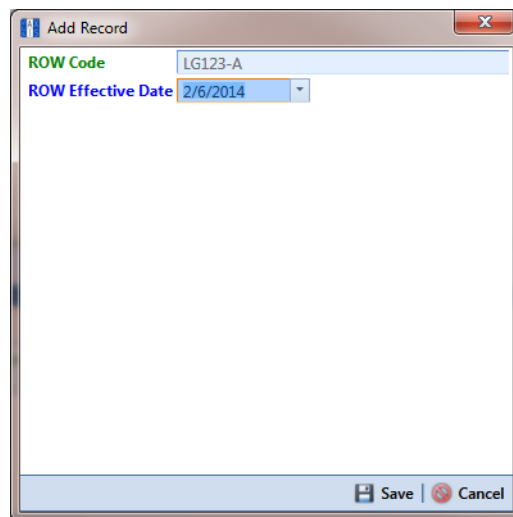

Figure 4-16. Add Record
- 8 Click  **Save** to display required field(s) for data entry (Figure 4-16).
- 10 Click  **Save** to close the *Add Record* dialog box and add an information record in the grid for the existing pipeline (Figure 4-16).